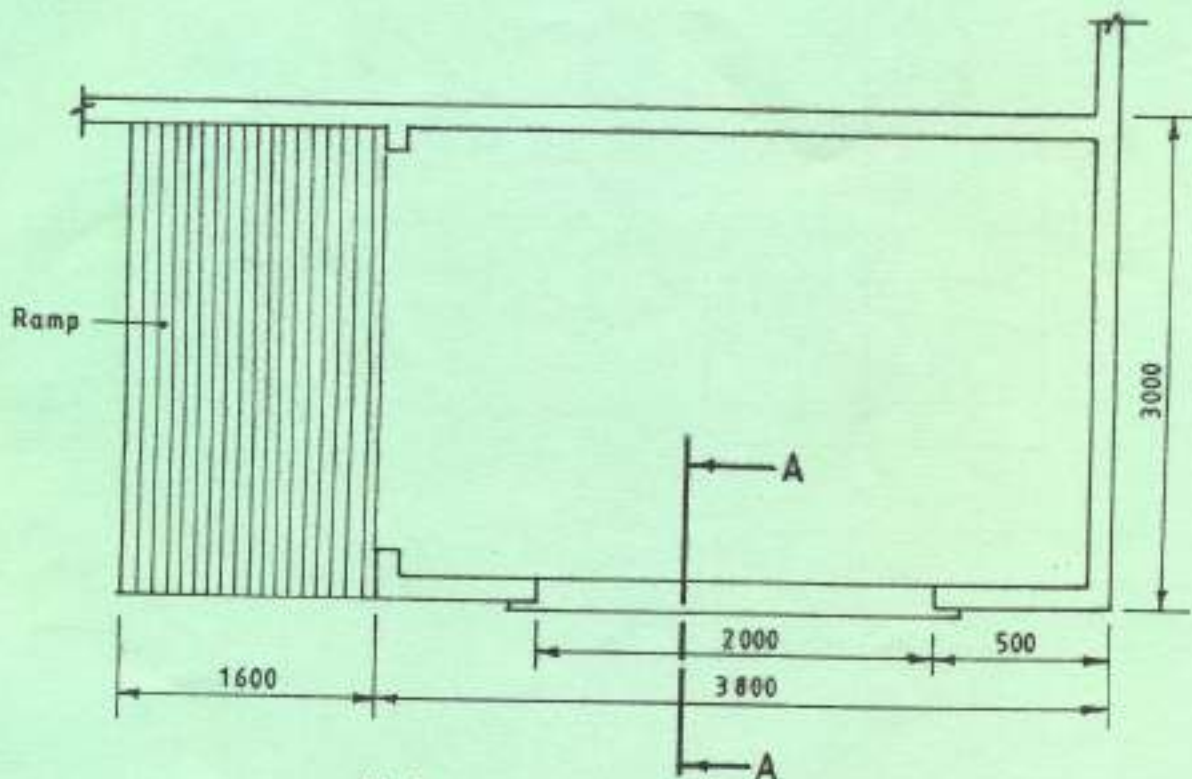

Fig.8
8. Figure 8 shows the plan of a garage attached to the main house. Draw section "A - A" from the foundation to eaves. Use the scale of 1:20 given the following information: